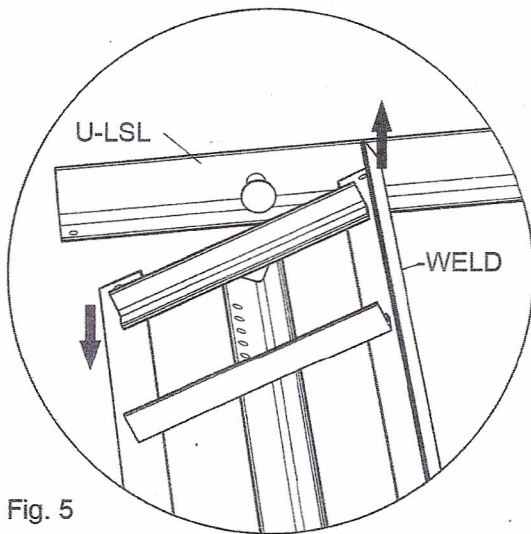

Fig. 5
11. Using 3/4" bolts (UMB75), attach the provided weldment (-WELD) to the side rails with the spring holes towards the head of the bed. Make sure the weldment straddles the side rails as shown to take stress off the bolts. See figure 5 to the left.